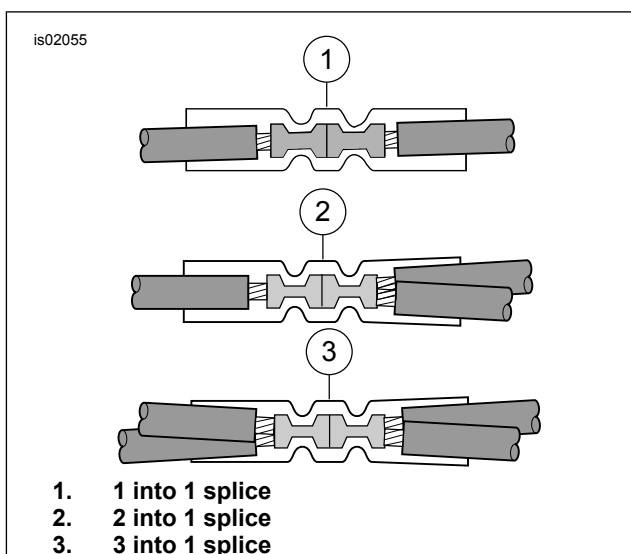

Figure 1. Splice Configurations
2. Use a sealed splice connector (6) from the kit to splice the black lead from the mini-tach harness to one of the black (BK) wire leads coming from the instrument cluster connector [20]. See Figure 1, the 2 into 1 splice configuration.
3. Obtain a sealed splice connector (6) from the kit. See Figure 1, the 2 into 1 splice configuration. Splice the mini-tach wire harness power lead and two segments of the orange/white (O/W) lead from cavity #2 according to the instructions in the service manual appendix.
2. Obtain a sealed splice connector (6) from the kit. Carefully slice open an area of the main harness wrap, and cut an orange/white (O/W) main harness power lead at an accessible point. See Figure 1, the 2 into 1 splice configuration. Splice the mini-tach wire harness power lead to the main harness power lead according to the instructions in the service manual appendix.
6. Using a sealed splice connector (6) from the kit, splice the two orange/white wires. See Figure 1, the 1 into 1 splice configuration.
7. Install the 2 Amp fuse (8) from the kit into the P&A IGN fuse cavity to complete the circuit. Install the three fuses removed in Step 2 into the proper cavities.
2. See Figure 2. Obtain a sealed splice connector (6) from the kit. Carefully slice open an area of the main harness wrap, and cut an orange/white (O/W) main harness power lead at an accessible point. See Figure 1, the 2 into 1 splice configuration. Splice the mini-tach wire harness power lead to the main harness power lead according to the instructions in the service manual appendix.